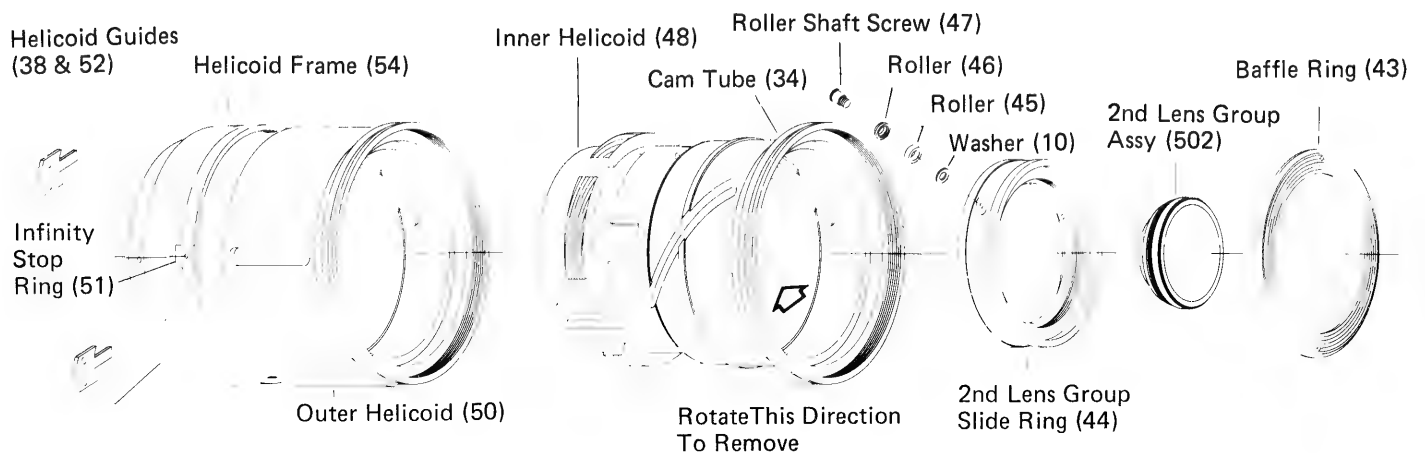

Figure 3-3. Main Component Group
1. Remove the two panhead screws (55) and two flathead screws (53) that hold the helicoid guides (38) and (52) to the outer helicoid (50). Remove the helicoid guides (Figures 3-3).
2. Unscrew and remove light baffle ring (43).
3. Rotate the cam tube (34) and the inner helicoid (48) in the direction shown in Figure 3-3 to separate them from the outer helicoid.
4. Remove roller shaft screws (47), rollers (46 and 45), and washers (10); then remove second lens group slide ring (44) by sliding outward to front of lens assembly.